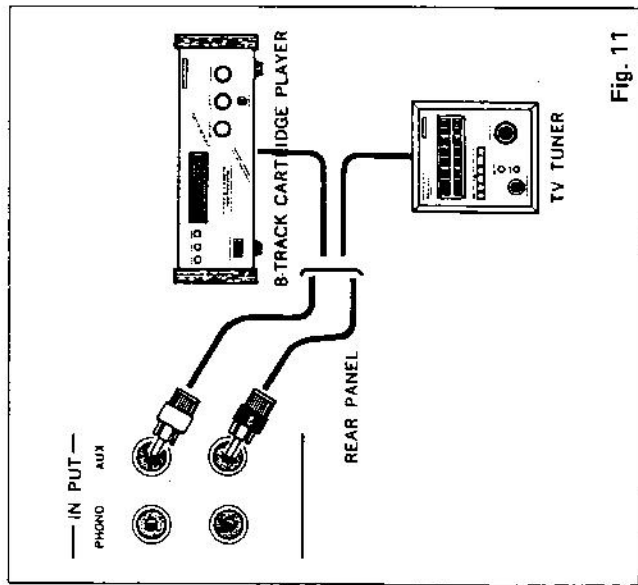

Fig. 11
The Aux jacks on the rear panel are for connecting other sound source equipment such as an 8-track cartridge player, television with audio output jack, or other tuner. If the connected unit is monophonic, connect to the left (L) jack only, and set the Mode switch to Mono. Use these jacks instead of the Phono jacks for connecting a turntable with a crystal or ceramic cartridge. Be sure to set the Function switch to Aux when listening to any unit connected to these jacks. See Fig. 11.